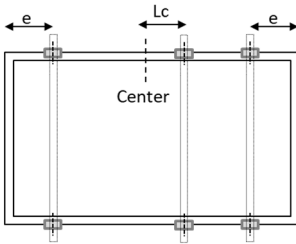

Fig. A1: Clipping position on long frames
**Table.A1-1 Test load using 6 clips on long frames (see Fig. A1)**
**Table.A1 Design load using 6 clips on long frames (see Fig. A1)**